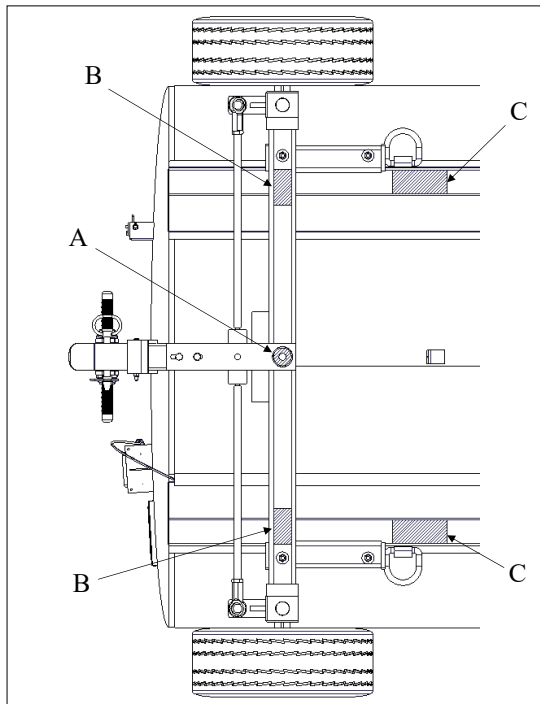

Figure 4-2 Lift Points
- Raise equipment with suitable maintenance jack (See Figure 4-2, arrow A for jack placement) high enough to remove wheel assembly.
- Place approved jack stands under front axle (See Figure 4-2, arrow B for stand placement).
To remove the entire Front Undercarriage assembly, the equipment must have the front end raised. See Figure 4-2 for lift points.
- Raise equipment with suitable maintenance jack (See Figure 4-2 arrow A for jack placement) to allow two inches of space between the wheels and ground.
- Place cribbing under tank skirts (See Figure 4-2, reference arrows C) to safely support the equipment.
To remove wheel assembly, the equipment must have the back end raised and placed on approved jack stands. Points A and B are similar on both the rear and front axles. (See Figure 4-2)
- Raise equipment with suitable maintenance jack high enough to remove wheel assembly. (See Figure 4-2, arrow A for jack placement).
- Place approved jack stands under rear axle (See Figure 4-2, arrow B for stand placement).